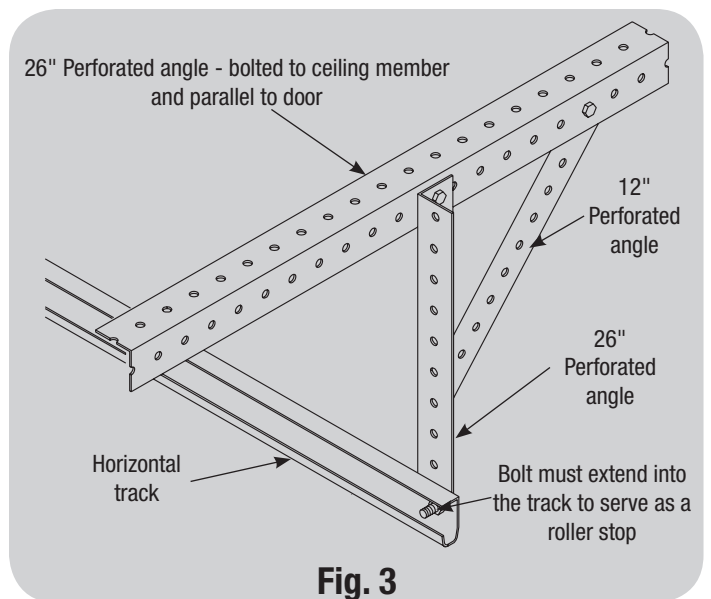

Fig. 3
Loosely bolt the (2) 26" angles together and to the end of the horizontal tracks using (1) 5/16-18x1" hex head bolt in each end. (Fig. 3) Make sure the horizontal tracks are perpendicular to the header, parallel to each other and level. Adjust angles and bolts as necessary.
Loosely bolt the 12" angles at an angle between the (2) 26" angles using (1) 5/16-18x1" hex head bolt in each end. (Fig. 3)